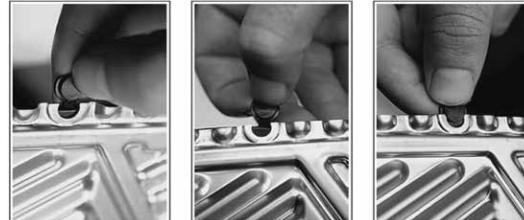

Fig.7
- Press the gasket onto the plate (Fig. 6), making sure that the leak detector vents, "A", are facing up and check that the Plug-In® tabs are hooked into their respective notches (Fig. 7). Make sure that the gasket is properly seated in its notch, then turn the plate over to check again that all the Plug-In® tabs are correctly in place.